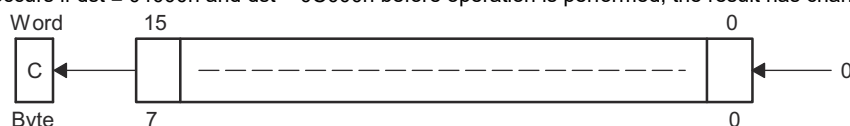

Figure 4-37. Destination Operand—Arithmetic Shift Left
Description The destination operand is shifted left one position as shown in Figure 4-37. The MSB is shifted into the carry bit (C) and the LSB is filled with 0. The RLA instruction acts as a signed multiplication by 2. An overflow occurs if $\text{dst} \geq 04000\text{h}$ and $\text{dst} < 0\text{C}000\text{h}$ before operation is performed; the result has changed sign.